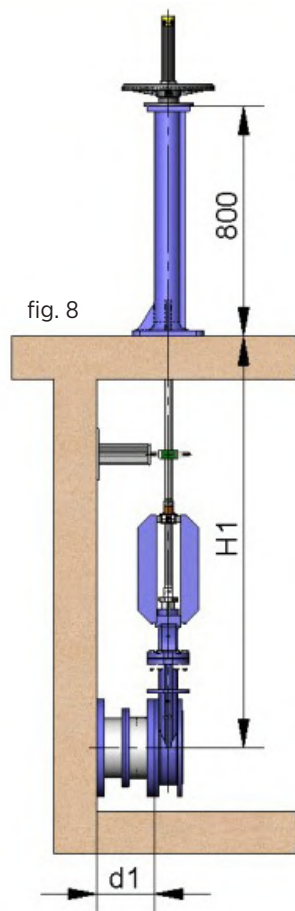

fig. 8
- The standard floor stand is 800 mm high (fig. 8). Other floor stand measurements available to order.